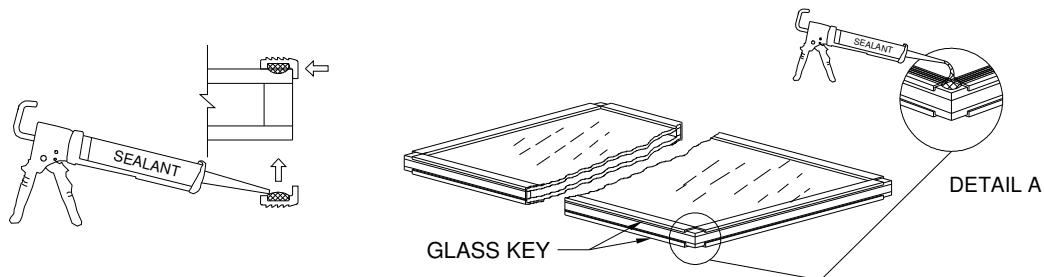

Figure 12:
7. Press the glass key to the face of the glass. The key needs to be placed firmly against the edge of the glass (Figure 12). This is most easily achieved by pressing at a 45° angle onto the glass.